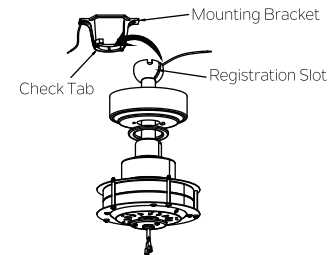

Fig. 9
**Step 5.** Now lift the motor body into position and place the hanger ball into the mounting bracket. Rotate until the "Check Tab" has dropped into the "Registration Slot " and seats firmly. ( Fig. 9) The entire motor body should not rotate if this is done correctly.